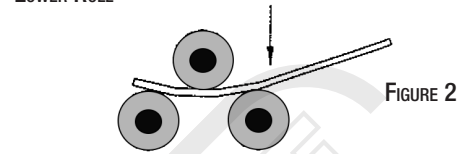

FIGURE 2
3. Move the top roller down as in Figure 2 and position the work piece to apply enough force to bend the material.